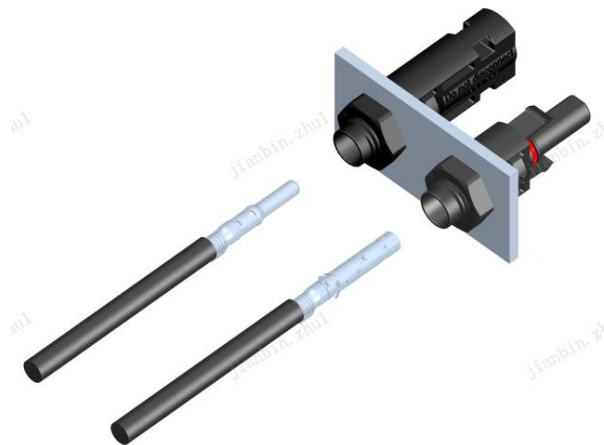

Figure 18
- ✧ 压接好的插针/插套插入到公端面板连接器/母端面板连接器内，直至其啮合（如图 18）。轻轻拉动导线，检查金属件是否啮合牢固（如图 19）。
Insert the crimped male or female terminals into corresponding male or female panel connectors separately until they engaged (Fig.18). Pull lightly on the lead to check that the metal part has engaged. (Fig. 19).